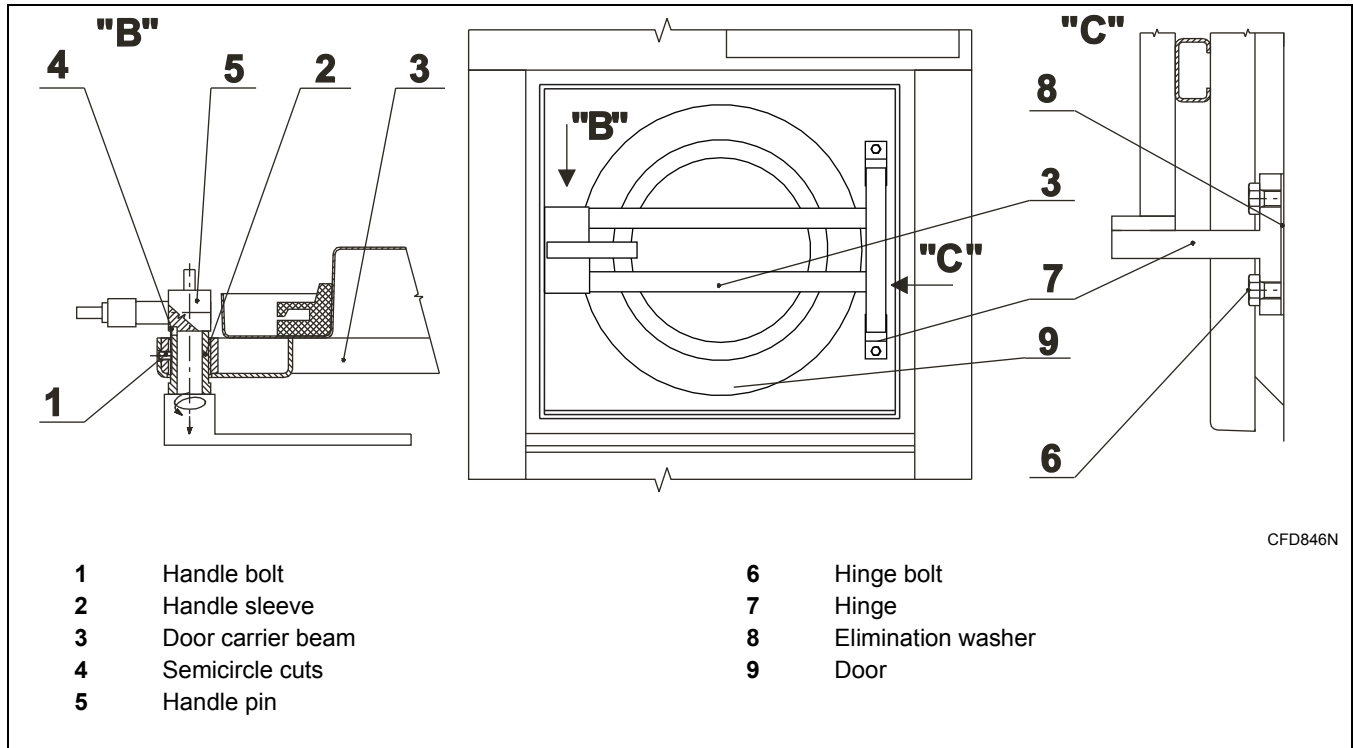
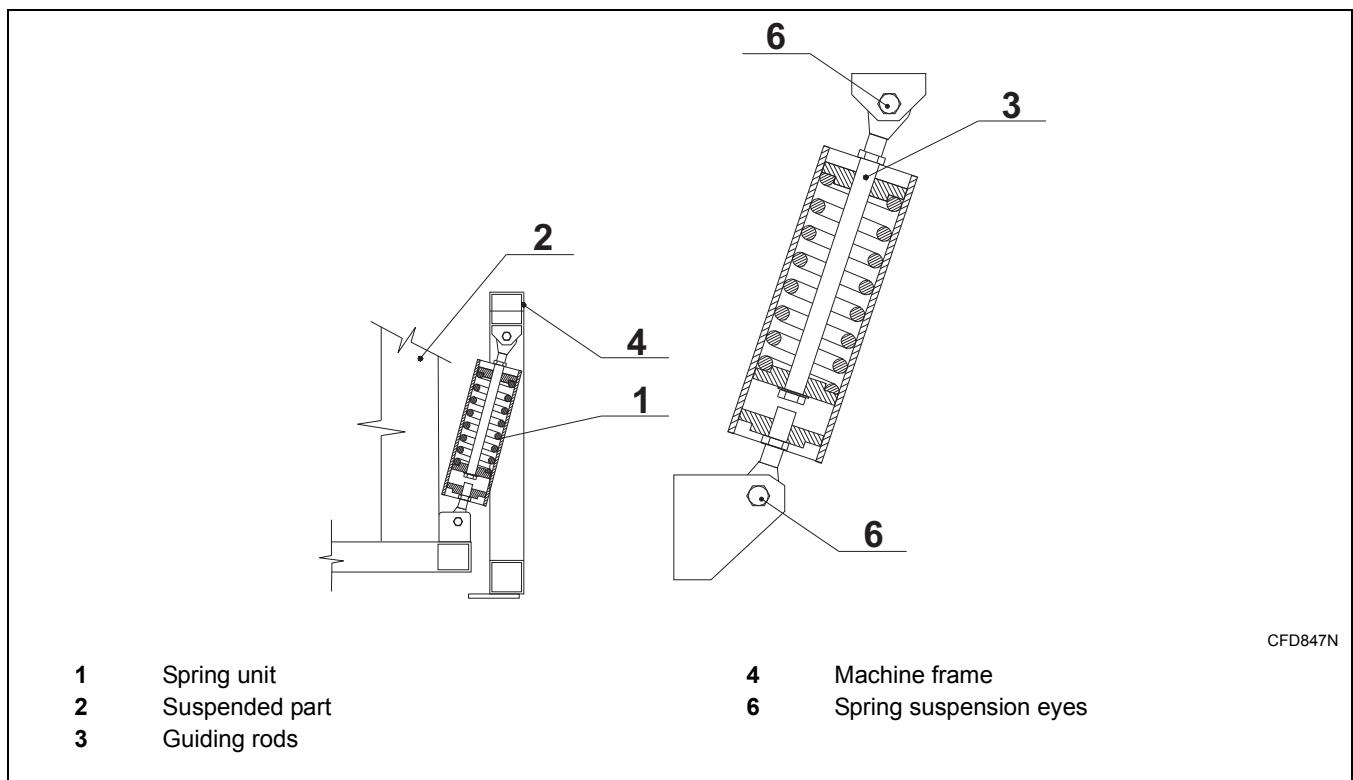

Figure 22
Figure 23
Once in 6 months or when needed, grease spring suspension eyes (*Figure 23*, pos. 6), guiding rods (pos. 3), the door handle casing (*Figure 22*, pos. 2) and the casings in the door hinge (pos. 7). The motor bearings are maintenance-free (do not lubricate).
1. Unscrew the bolt (*Figure 22*, detail “B”, pos. 1), securing the casing of the door handle (2).
2. Unscrew the casing (2) from the door bearer (3) always by a whole turn so that the groove in the casing thread (2) appears below the securing bolt (1).
3. To make the casing turning (2) easier, use the semicircle notches (4) between the casing (2) and the handle pin (5), in which you insert a cylindrical object (a bolt, etc.). By turning the handle, the casing (2) will also move.
4. After the door thrust has been adjusted, tighten up the securing bolt (1) to the groove in the casing (2) thread.